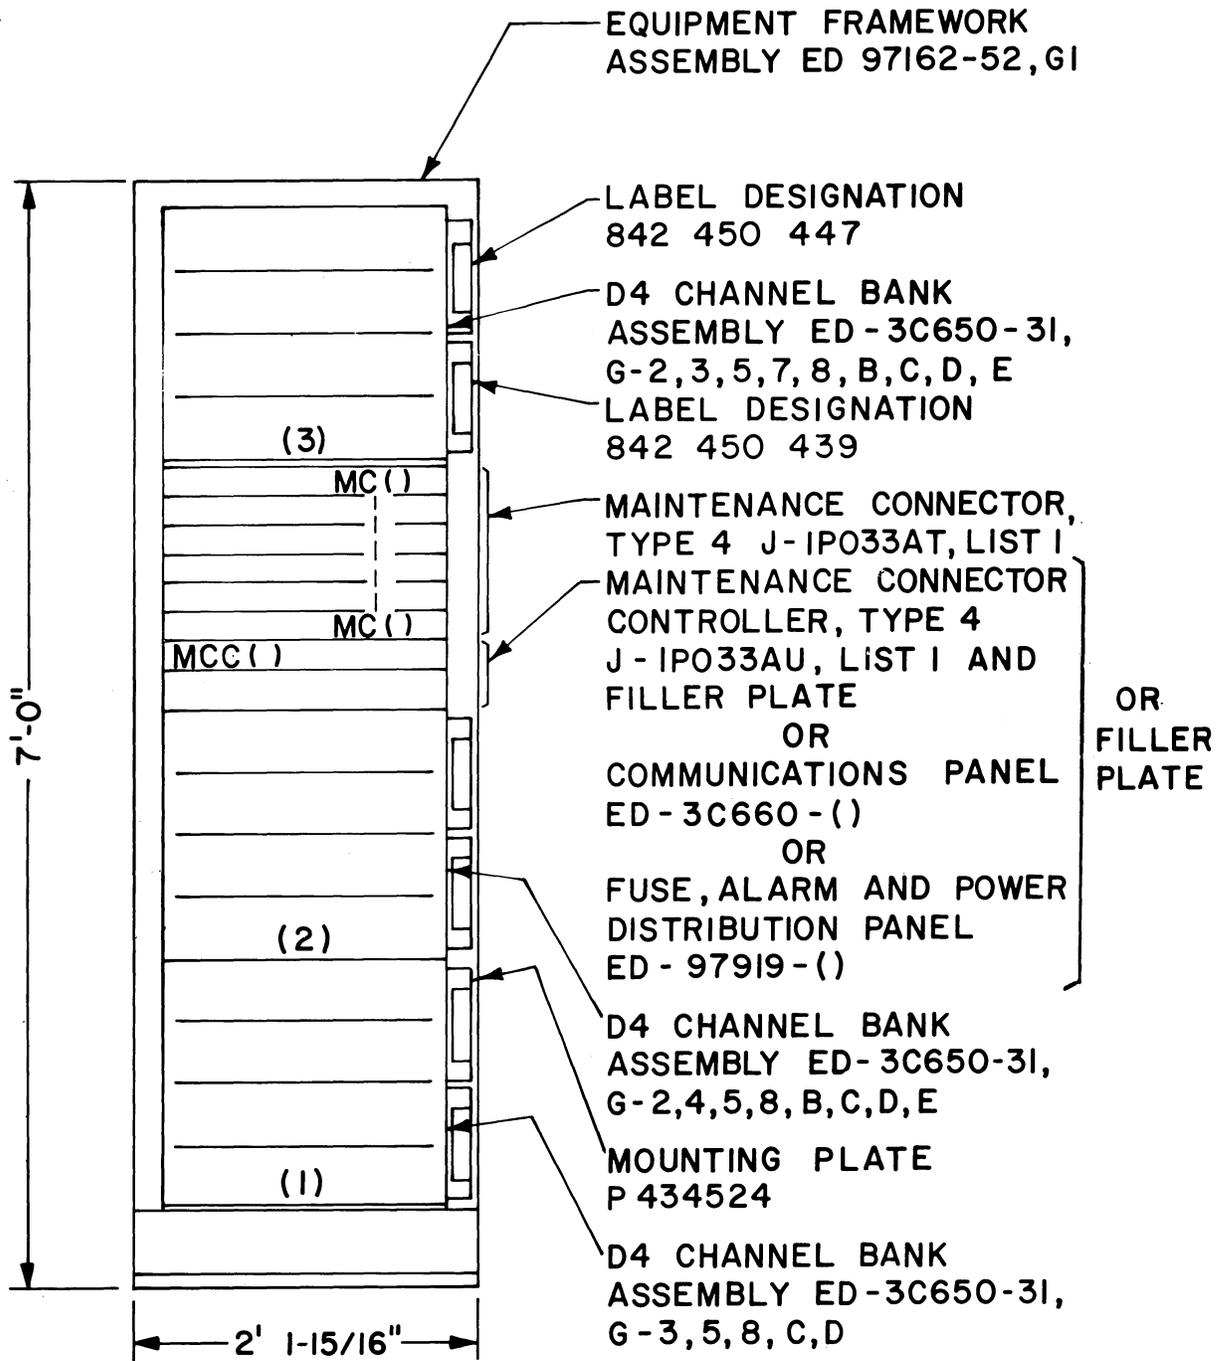

Fig 7—J98733F
**1.09** The J98733F frame shown in Fig 7 is a 7-foot cable-duct type framework having provisions for three D4 channel banks, an optional MCC, and six MCs. It will accommodate front-mounted equipment for 144 channels.